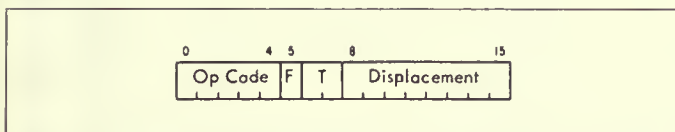
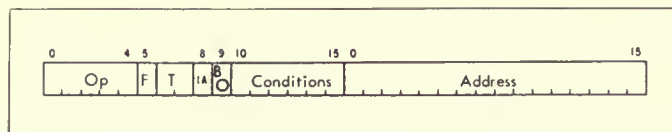

Fig. 5. IBM 1800 one-word-instruction format. (Courtesy of International Business Machines Corporation.)
Fig. 6. IBM 1800 two-word-instruction format. (Courtesy of International Business Machines Corporation.)
*Instruction formats*. Two basic instruction-word formats are used, one word (Fig. 5) and two word (Fig. 6). The bits within the instruction words are used in the following manner: